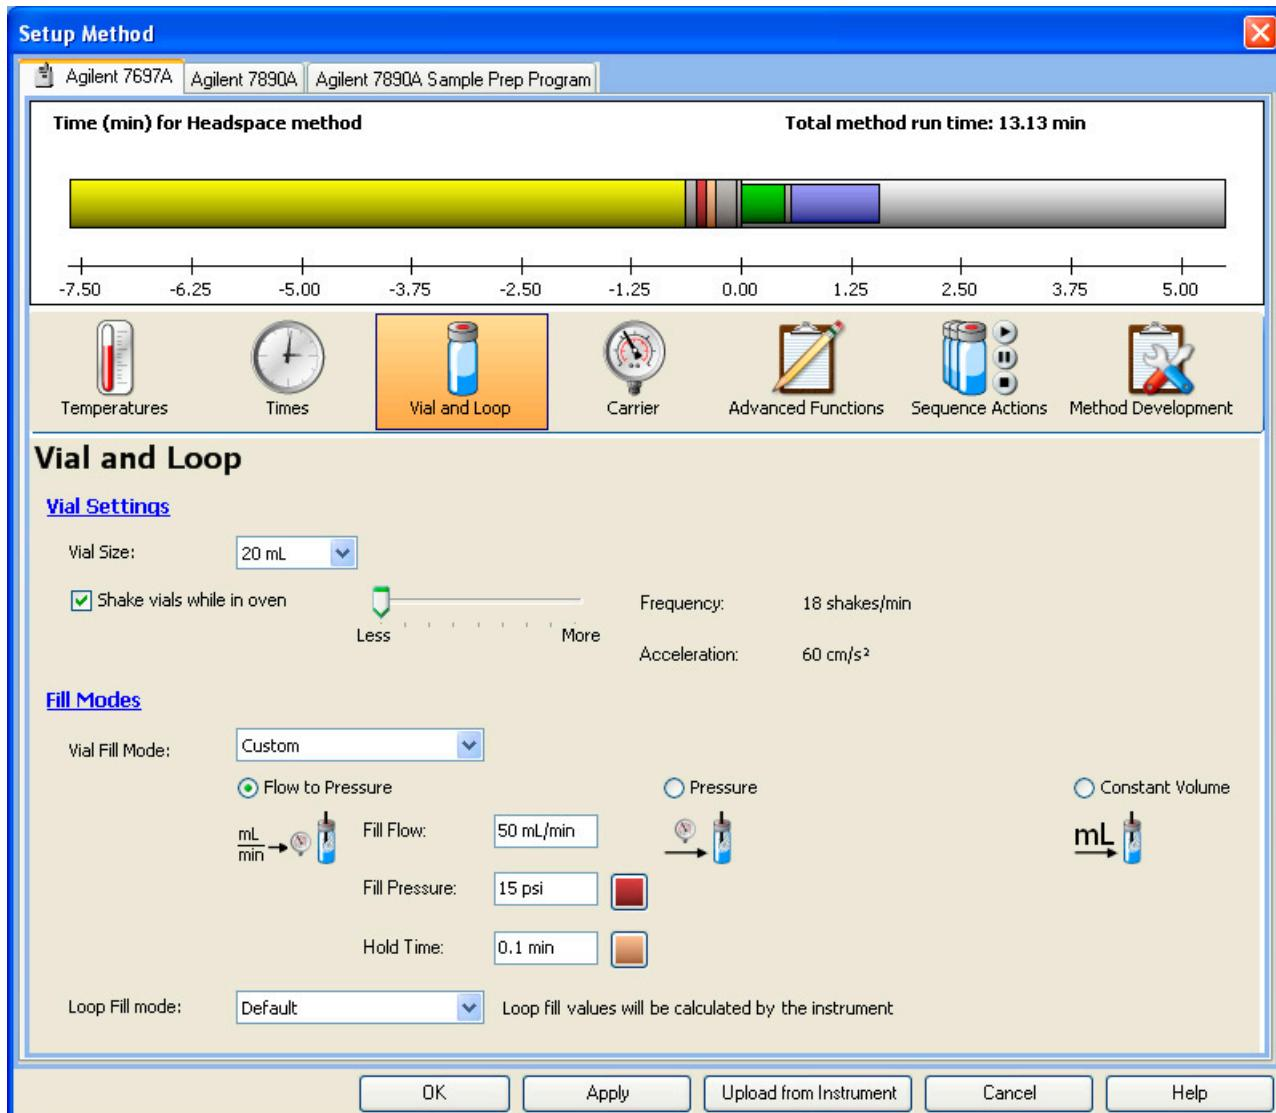

Figure 16 Setting the vial and loop parameters
- 5 Select the **Vial and Loop** icon and set the parameters shown in Figure 16.